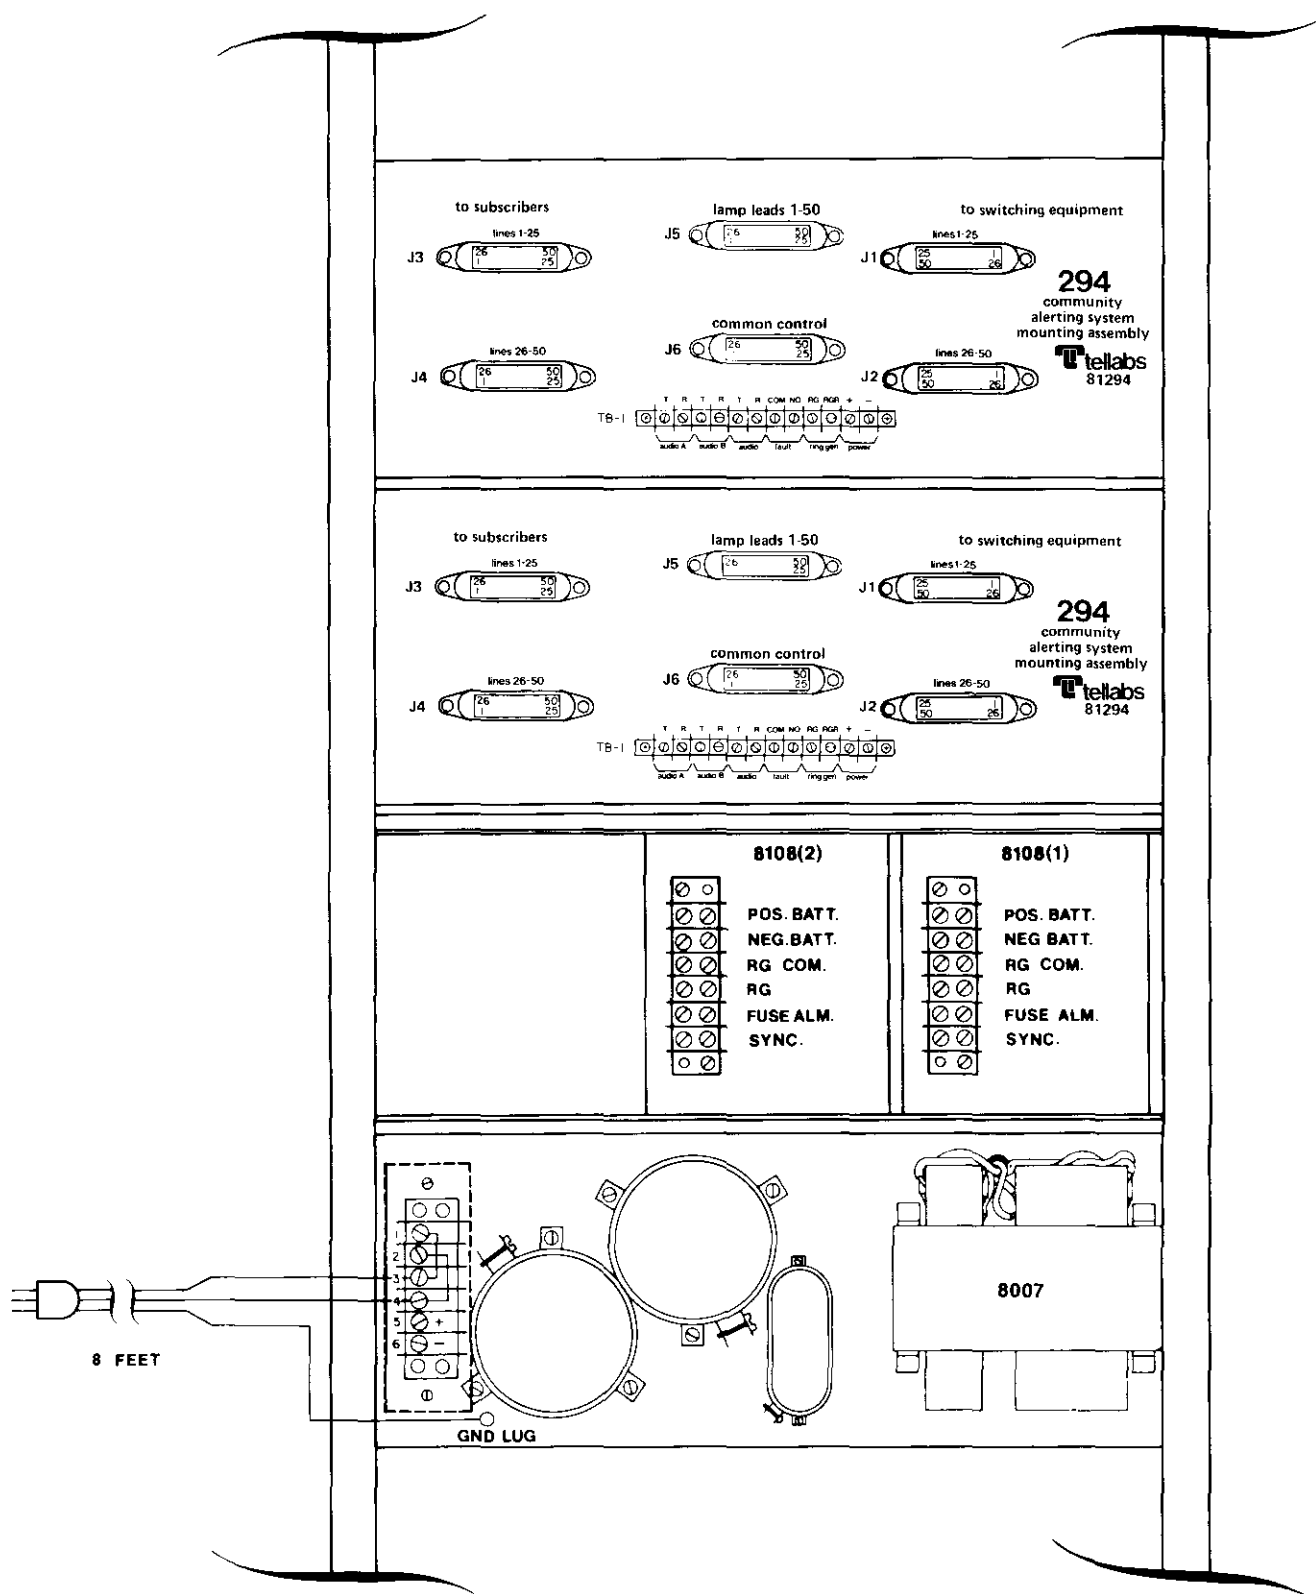

figure 2. Typical 100-line 294 System
2.08 The required mounting arrangement for this typical 294 System's equipment is shown in figure 2. The two 294 Mounting Assemblies mount at the top of the equipment rack. The ringing generators and power supply mount below the last (lowermost) equipment shelf.